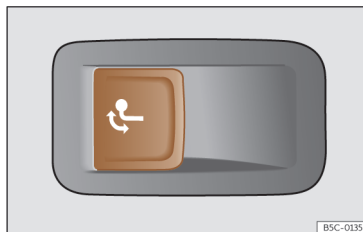

Fig. 189 Left side of the luggage compartment: button to unlock the tow hitch.
- Pull the >>> **Fig. 189** button briefly. The tow hook unlocks electrically and automatically turns outwards. The button's control lamp flashes.
- Pull the >>> **Fig. 189** button briefly. The tow hook unlocks electrically.
- Never press the button >>> **Fig. 189** when there is a trailer hooked to the vehicle or when a carrier system or other accessories are mounted on the tow hook.